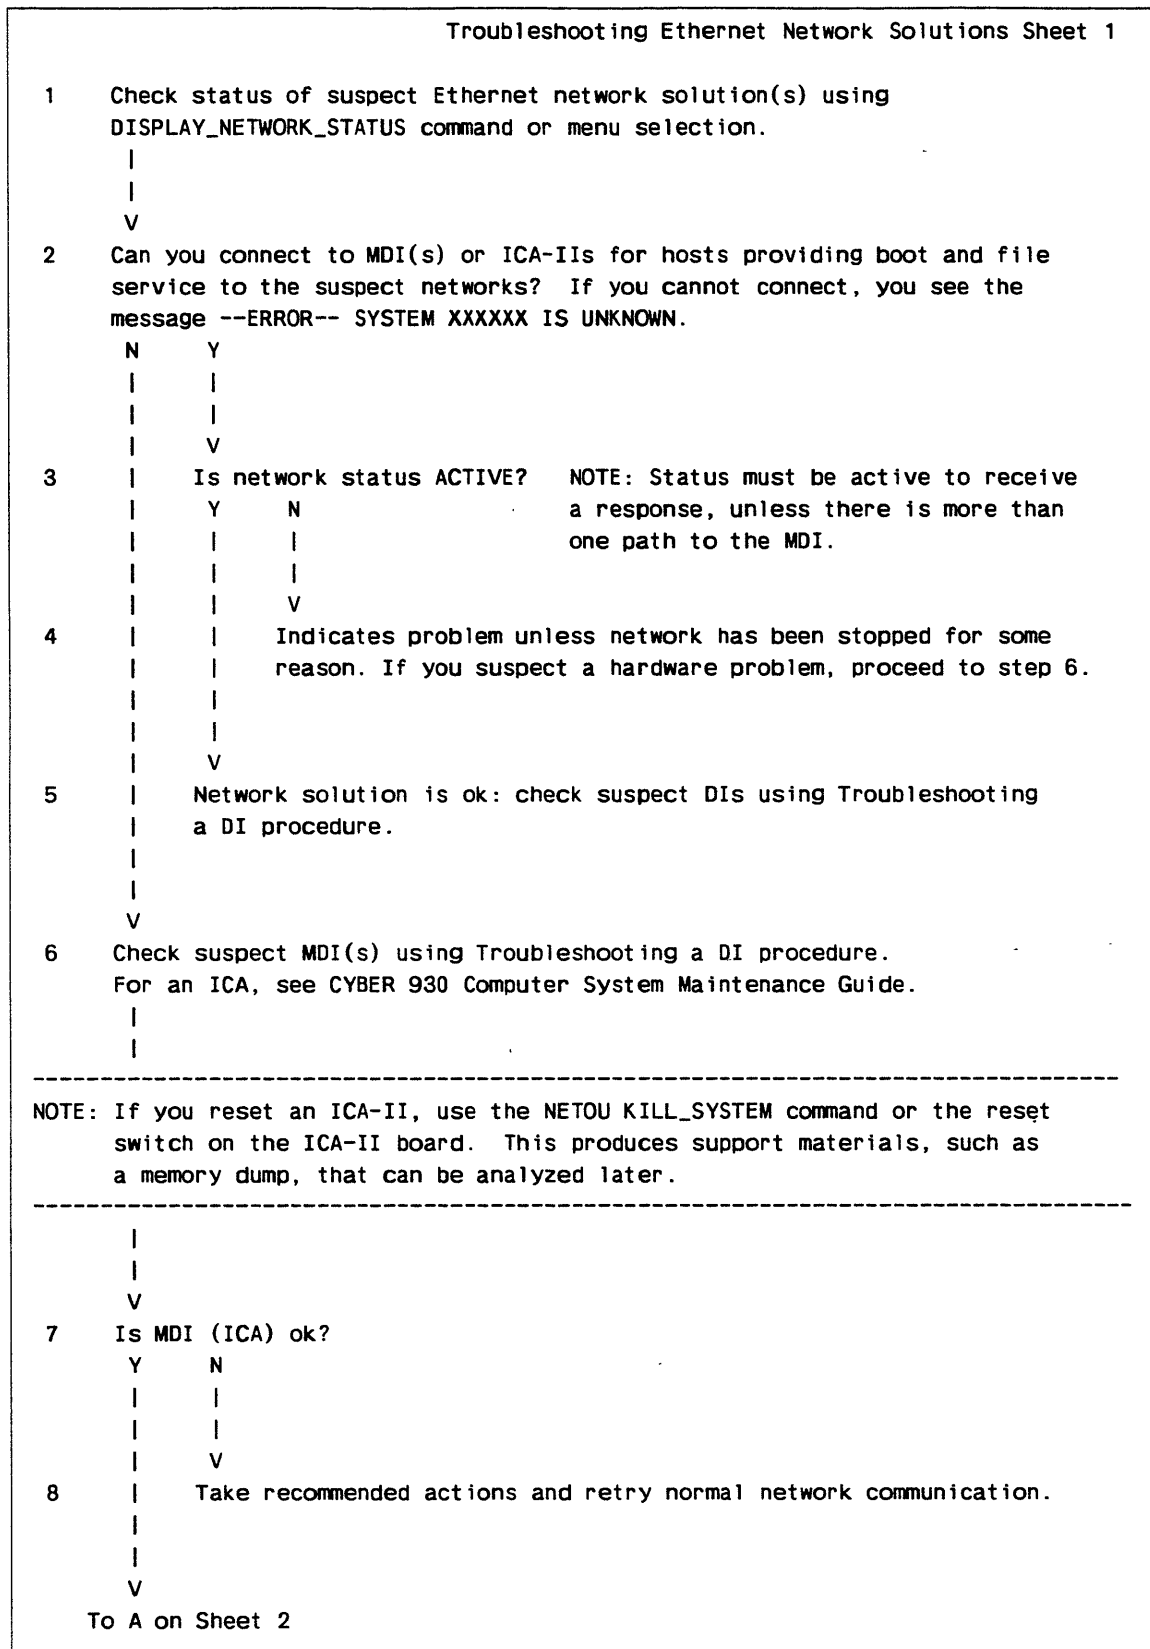

Figure 5-2. Troubleshooting Ethernet Network Solutions
Figures 5-2 and 5-3 show how to troubleshoot network solutions. This procedure assumes that you have completed the preliminary checks given in the previous topic, *Starting to Troubleshoot the Network*.
- Troubleshooting Ethernet Network Solutions (figure 5-2)